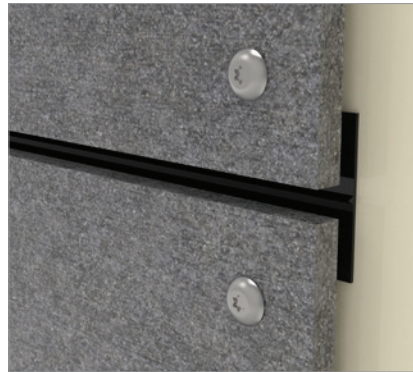
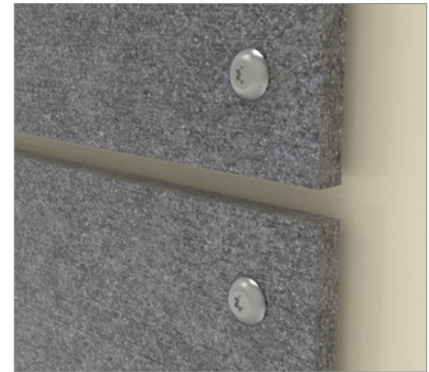

FIGURE 11.
FIGURE 12.
Genesis façade boards can be joined horizontally either closed with a Genesis 3.5mm Back Flashing (see Figure 11) or as an open joint (see Figure 12).
- Genesis façade boards must be fixed in accordance with Table 3 and minimum edge distances as specified in Figure 11 and Figure 12. Appropriate panel fixing layout should be selected for the project Design Wind Pressure and Top Hat Spacing.